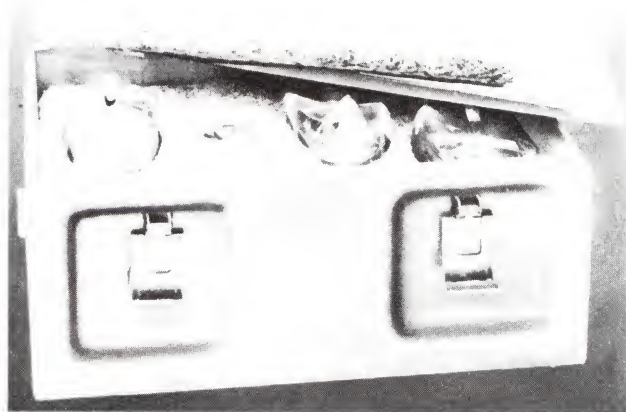

Figure 4-3. TDDs in Outer Container.
**4-1.3.1 TDD Container.** The IR and RF TDDs are shipped from the depot in the Mk 129 container, figure 4-3. Each TDD is sealed in an individual polyethylene bag for protection against dust and moisture. Four TDDs are placed in each outer container.